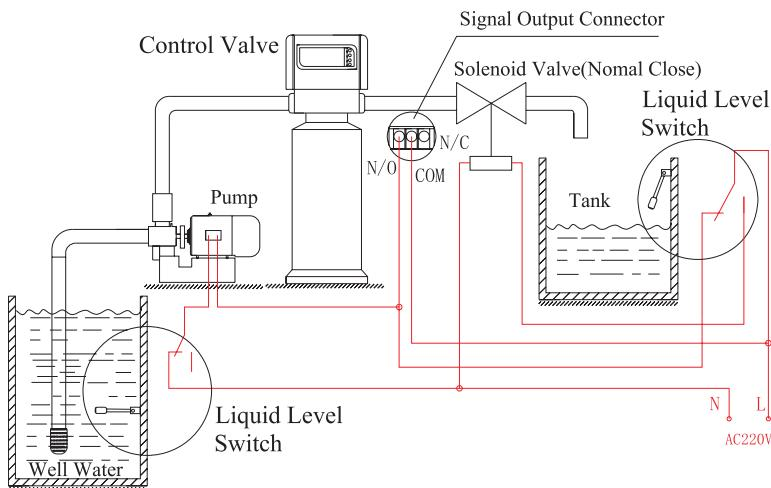

Figure 3-5 Wiring of Liquid Level Switch Controlling Inlet Pump
- Instruction:** For some systems getting water from the well, or supplying water by the tank, we can control the pump on and off by the liquid level switch of the tank and the valve. The wiring refers to Figure 3-5.